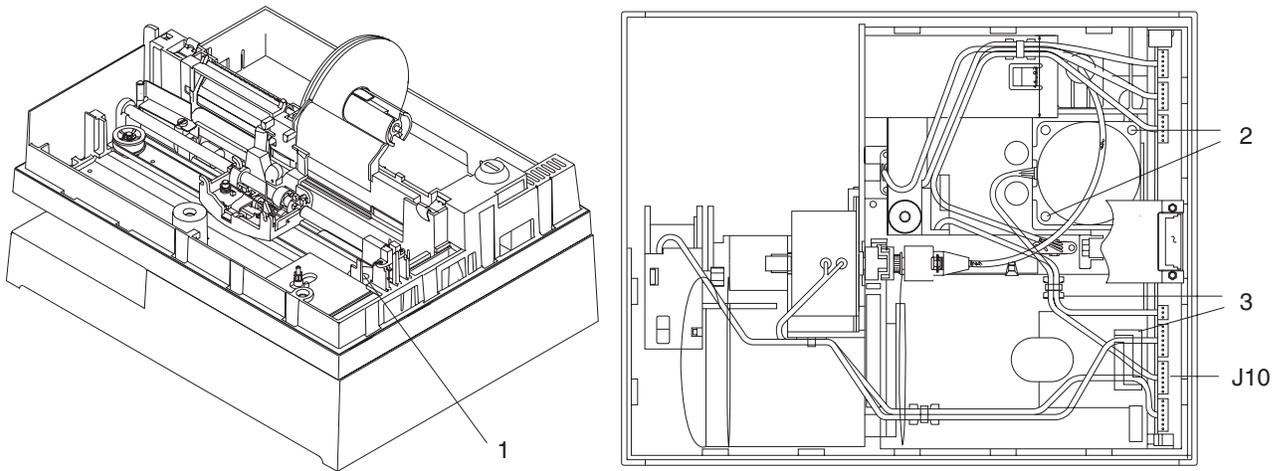

Figure 5-25. Print Head Carriage Motor. For illustration, the top cover has been removed. Removal of the cover is not necessary for this procedure.
- 1** Remove the carriage drive belt from the motor pulley (1). See Figure 5-25 on page 5-37.
- 4** Remove the motor cable from its retainers (3).
- 5** Remove the motor screws (2).
- 1** Put the carriage drive motor into place as shown in Figure 5-25 on page 5-37.
- 2** Reinstall the motor screws (2).
- 3** Put the motor cable into its retainers (3).
- 6** Put the drive belt on the motor pulley (1).